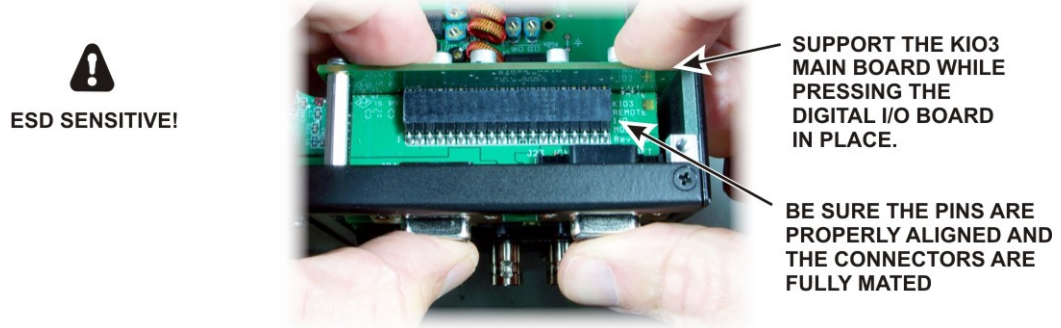

Figure 34. Installing the KIO3 Digital I/O Board.
- Install the KIO3 Digital I/O daughter board as shown in Figure 34. Be careful to support the KIO3 main board as shown while pressing the daughter board in place.